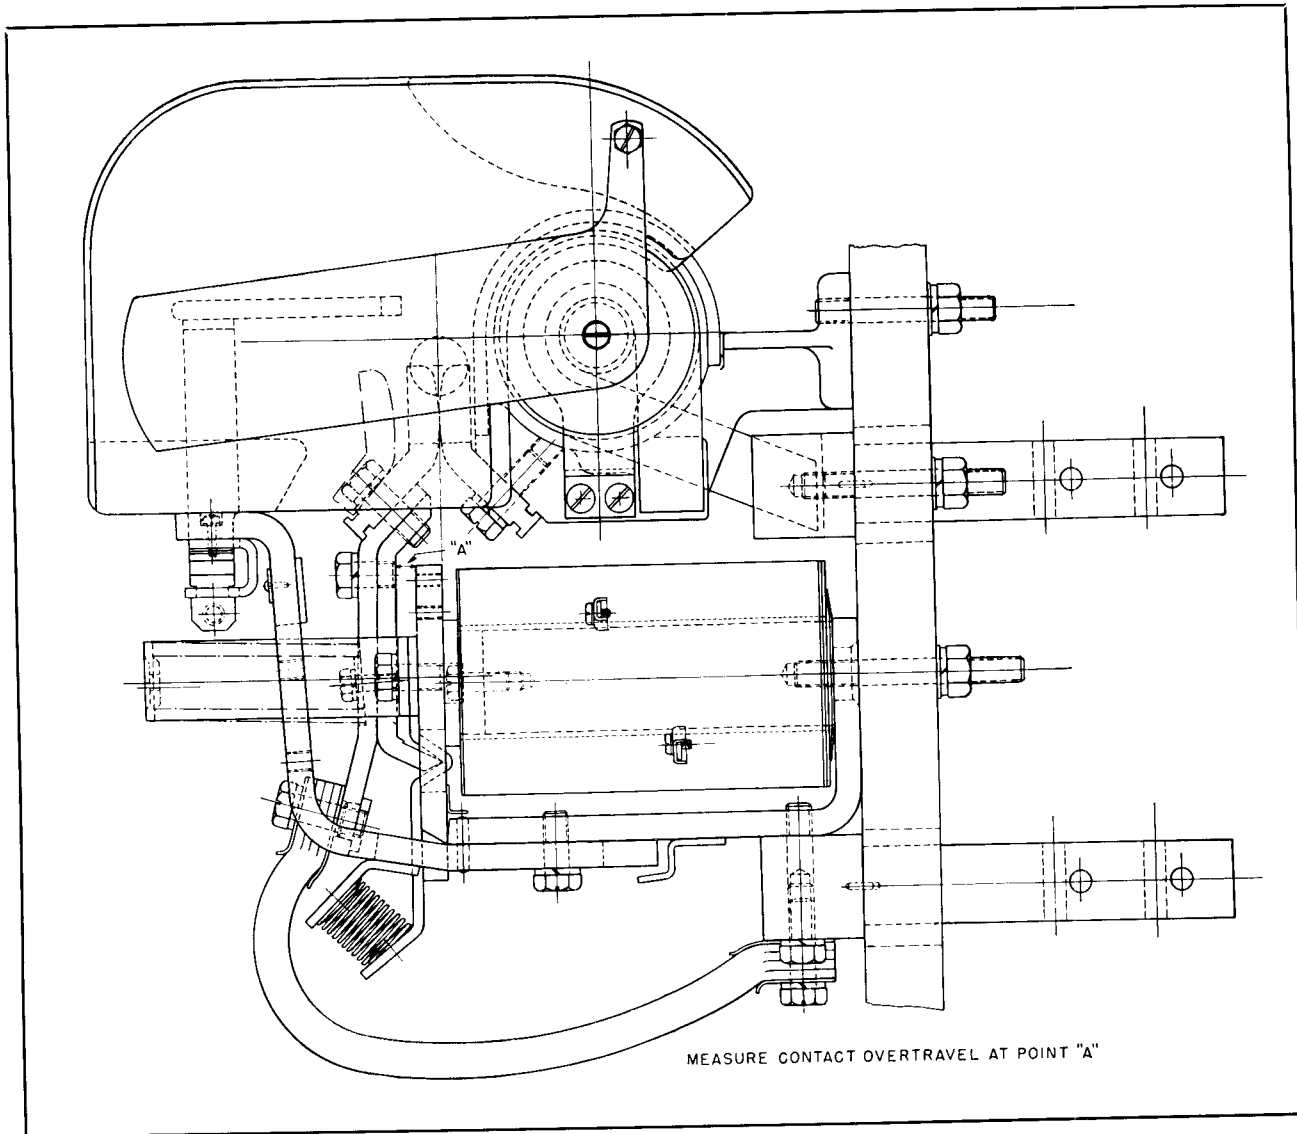

FIG. 3. Sectional View of Type M-810 Contactor with Armature Closed
When the contacts are new and the armature is closed either electrically or mechanically, the gap between the contact support bracket and the top of the armature plate, Dimension "A", Fig. 3, should be as shown in Table No. 4. Change contacts when this dimension is reduced to 1/32 inch.
* Dimension "A" of Fig. 3.